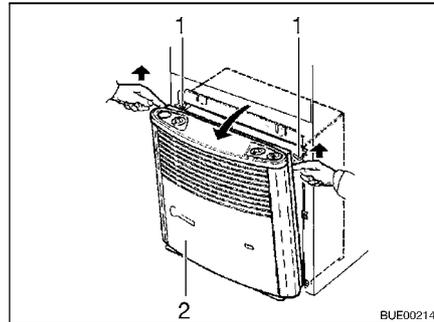

Fig. 117 Removing heater cover
- Remove heater cover (Fig. 117,2). Pull the heater cover upwards and forwards, press up the retaining springs (Fig. 117,1) to the side and tip the cover forwards.